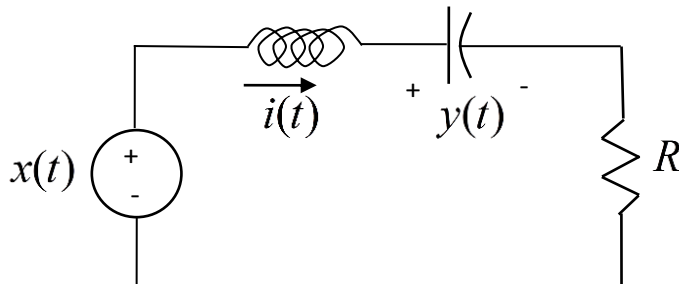

Figure 6. Second order circuit for PART 3
1) Construct the second order circuit shown in Figure 6. For this circuit, use your variable resistor for R, use a $0.01 \mu\text{f}$ capacitor, and a 33 mH inductor.